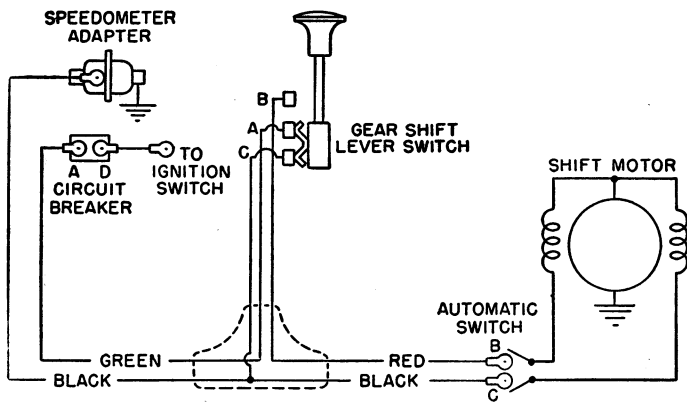

Fig. 59 Eaton electric shift wiring diagram
Control Switch—The control switch, which is located on the transmission gearshift lever, has two positions—up and down. Three wires are connected to the switch, Fig. 59. When the selector button of the switch is up, the battery
Wiring System—As shown in Fig. 59, the wiring harness has four terminals. Two of them (B and C) in a double line run to the axle shift unit on the axle. Of these the longer (red) one is connected to the bottom terminal, and the shorter (black) one is connected to the top terminal. The short single black wire (C) is connected to the speedometer adapter and the green wire (A) is connected to the circuit breaker. Wire (D) connects